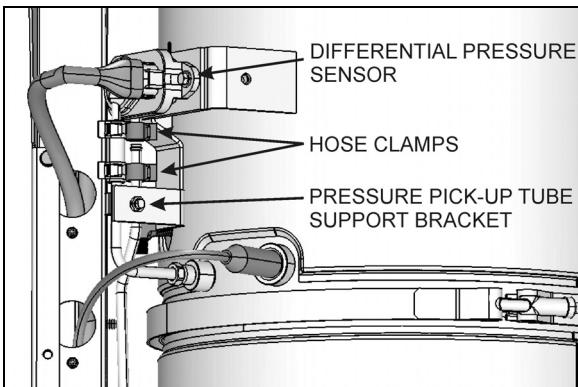

FIGURE 7: PRESSURE DIFFERENTIAL SENSOR AND TAKE UP TUBES (VOLVO D13 ONLY) 04026
7. **With Volvo D13 engine:** Dismount the differential pressure sensor and detach the two hoses from the differential pressure sensor. Detach the two pressure pick-up tubes from the support bracket. This will help to clear the way off for removal of the DPF cartridge from the compartment (figure 7).